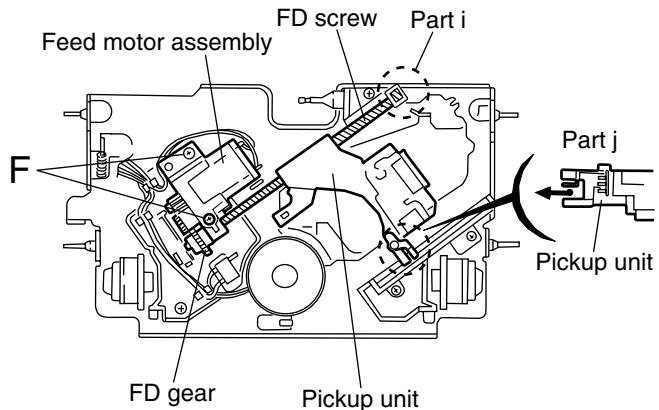

Fig.10
■ Removing the feed motor assembly (See Fig.10)